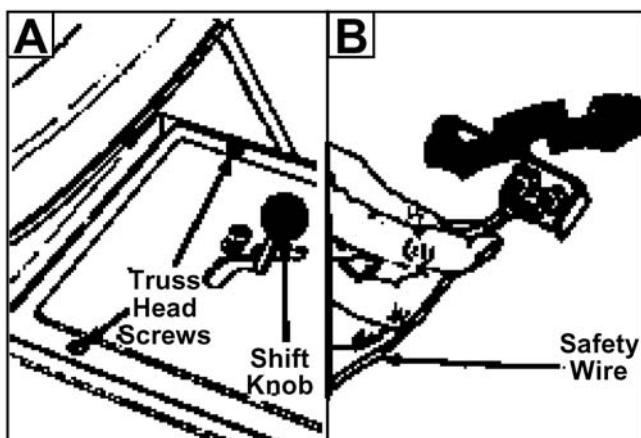

Figure 7-42. Rear Drive Belt
1. Place shift lever in neutral position. Unscrew the shift knob and the speed control knob (if located on the console). Remove the two truss head screws which secure the transmission cover. See Figure 7-42.